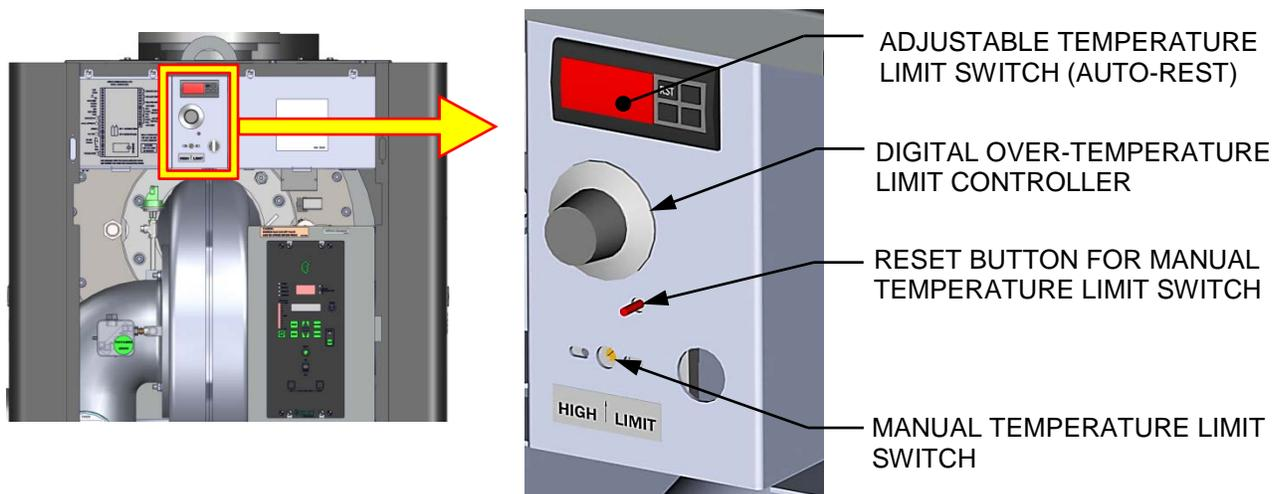

Figure 4-4: Over-Temperature Limit Switch Location
The unit contains three (3) types of over-temperature limit controls. These controls consist of a Manual Reset button, a rotary adjustable Temperature Limit switch and a digital Over-Temperature Alarm button. These controls are mounted on a plate as shown in Figure 4-4. They can be accessed by opening the front panel door of the unit.
The Manual Reset button is not adjustable and is permanently fixed at 210°F (98.9°C). This button will shut down and lock out the boiler if the water temperature exceeds 210°F (98.9°C). Following an over-temperature condition, it must be manually reset by pressing the Manual Reset button shown in Figure 4-4 before the boiler can be restarted.
The digital Over-Temperature Alarm switch shown in Figure 4-4 and 4-5 is preset at the factory to 210°F (98.9°C) and should not be changed. If an over-temperature condition is detected, this switch automatically shuts down the boiler and sounds an audible alarm. If desired, the Over-Temperature Alarm can be checked or adjusted using the procedure in section 4.6.1.